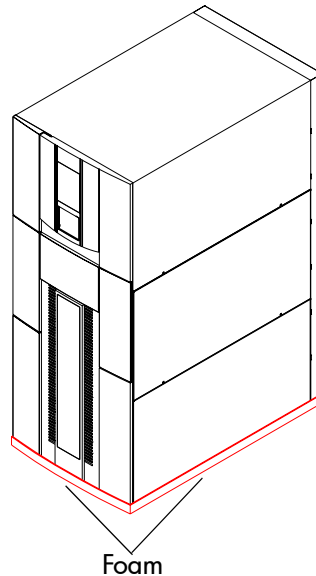

Figure 42: Adding the shipping foam to the library perimeter
11. Close the library doors and add shipping foam to the bottom of the library perimeter (see Figure 42).